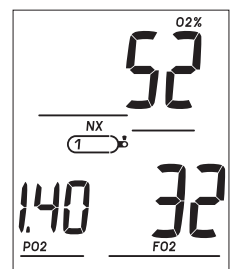

Fig. 6 - NORM SURF ALT 3
**NORM SURF ALT 3**, information includes (Fig. 6):